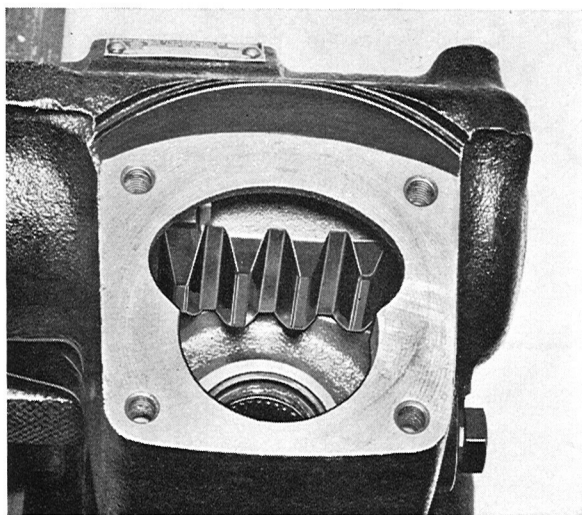

Fig. 6-100. Center position
12. Place the piston teeth in the center position, that is, the opening between the second and third teeth about opposite the steering shaft hole (Fig. 6-100). Fine-adjust by setting the worm scribe mark to coincide with that on the housing (Fig. 6-58).